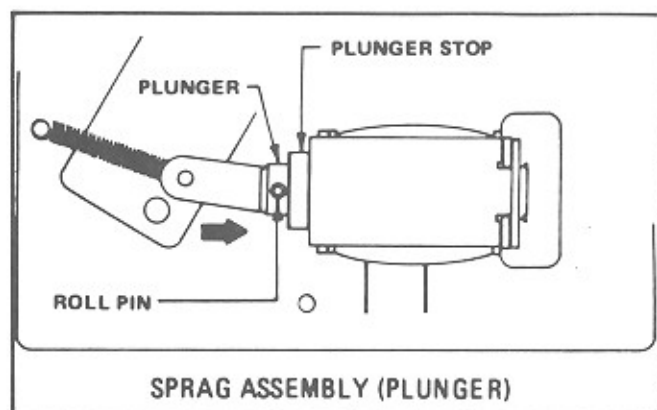

Figure 3-7. Sprag Assembly (Plunger)
1. Refer to Figure 3-7 in the following steps. Depress solenoid plunger until the roll pin bottoms on the plunger stop (Actuate by pressing on plunger.).